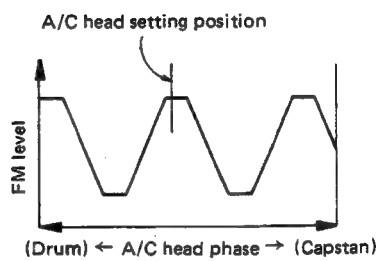

Fig. 2-58
8. Slowly turn the tool and set the audio/control head assembly to the position where the second biggest peak FM level is obtained. See Fig. 2-58.
9. While using care not to slide the position of the audio/control head assembly the tow screws (D) and (E).